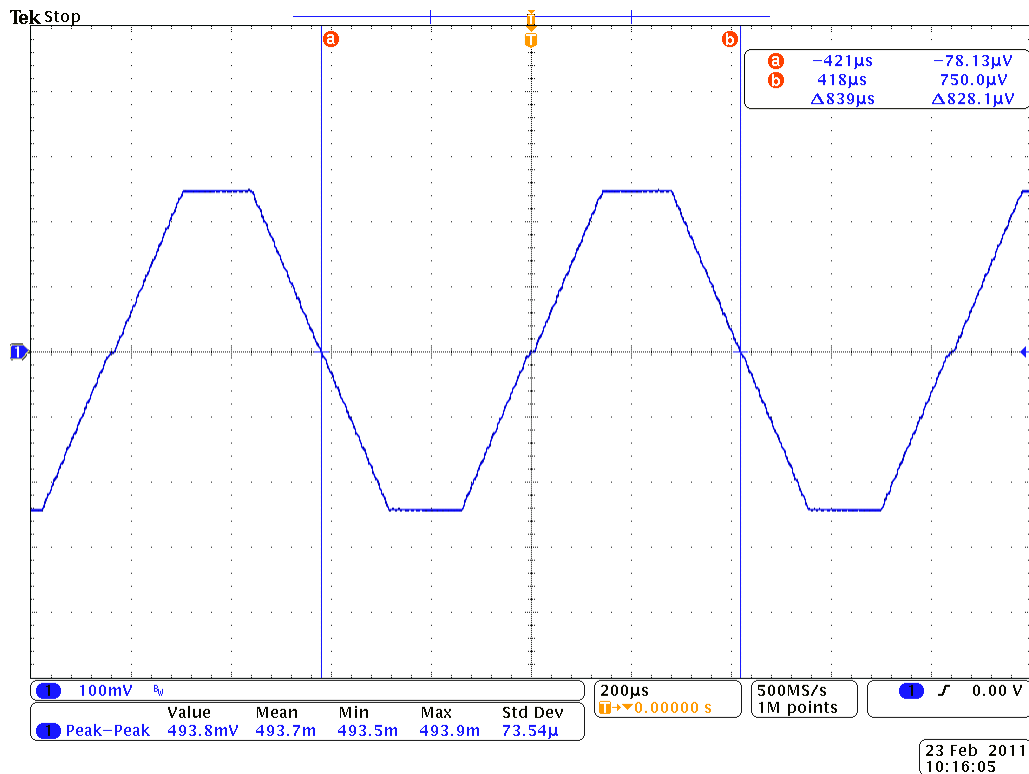

Figure 2: Output waveform (mark)
- Connect an oscilloscope to TxA (IDC2 pin 7) of the test bench. An image similar to figure 2 should be visible.